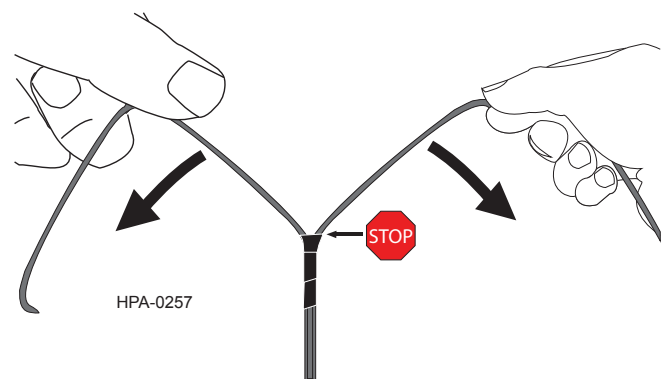

Figure 8
- Step 3:** After the snip is complete, grab each half of the cable sheath securely and pull to separate sheath along the length of the cable to the tape wrap. It is best to pull each half at a slight angle relative to the cable direction (Figure 8).